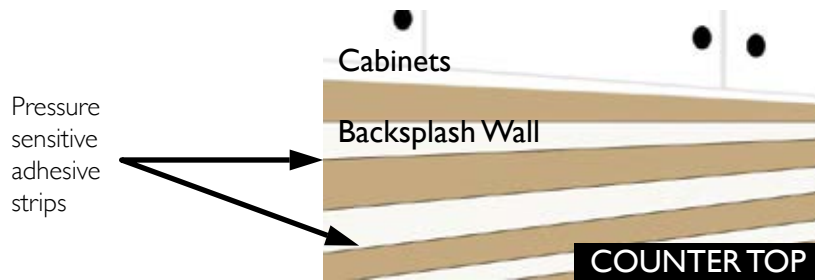

Figure 5
- I. If you haven't done so already, turn off any electrical outlet or switches that protrude from the backsplash wall and the breaker and disassemble them. Either paint the wall white or apply our white reflective backer laminate by using a few strips of our pressure sensitive adhesive to the wall at the top, middle and bottom (**See figure 5**).